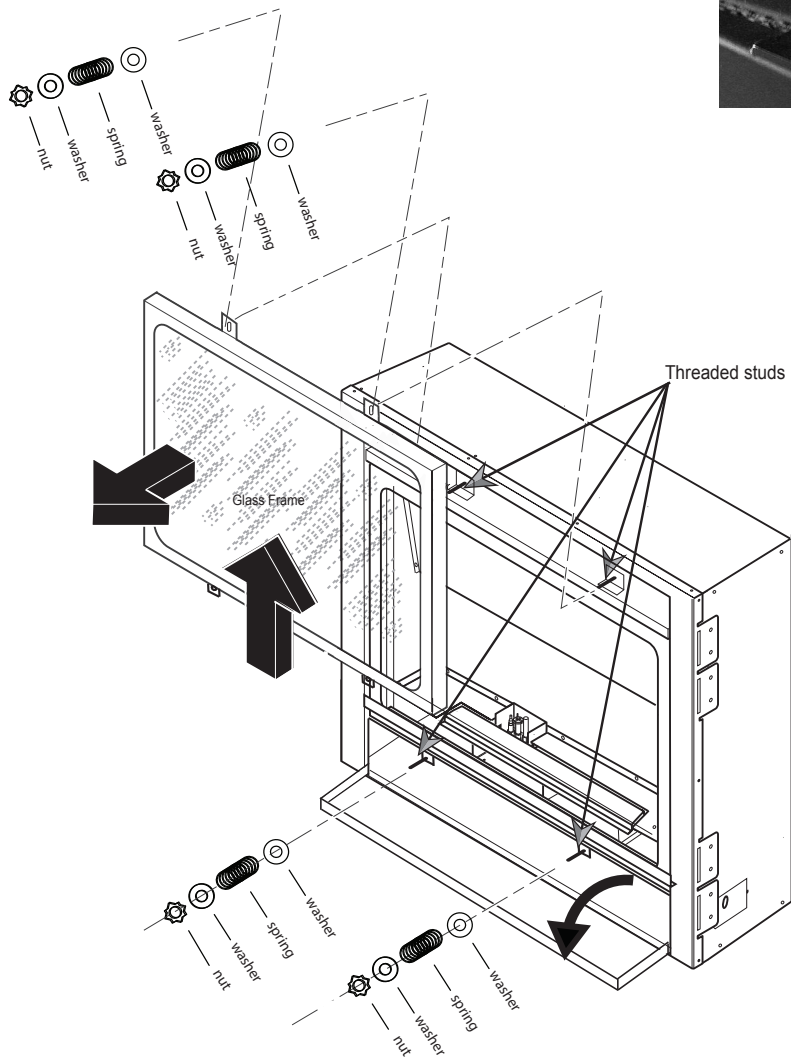

Figure 36 - Removing Glass Frame
2. Locate four studs with springs and nuts above and below the glass frame (See Figure 36).